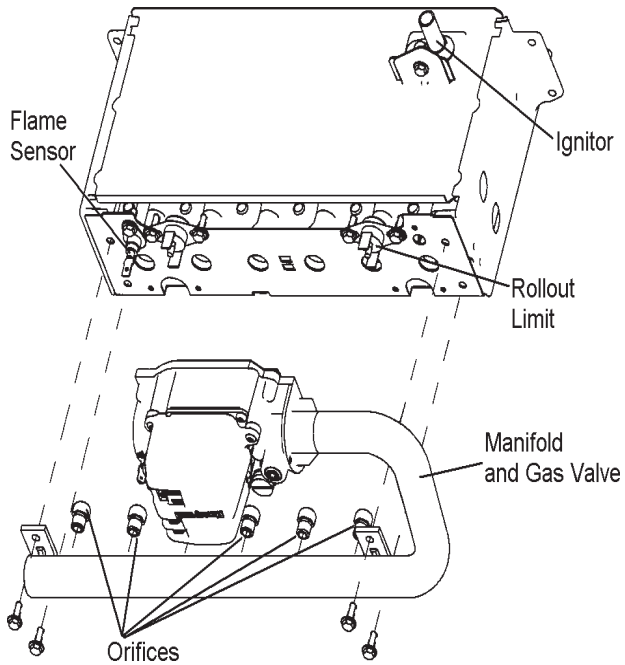

Figure 1
6. Replace the main burner orifices with the provided orifices. Torque to approximately 35 in. lbs. Do **not** use sealant on orifices. See Figures 1, 2, 3 or 4.